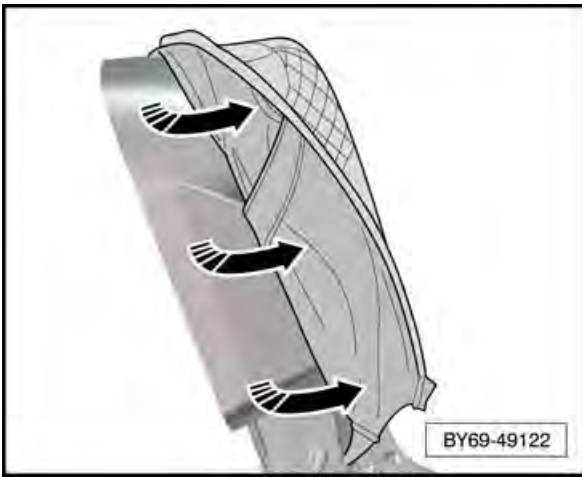

Figure 38
- Carefully fold back the trim cover (see Figure 38)